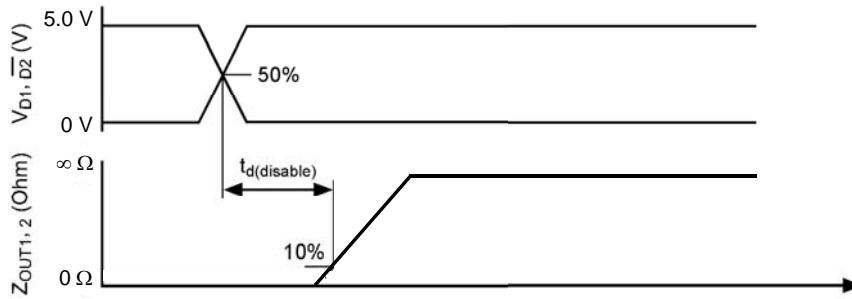

Figure 5. Disable Delay Time
- Disable Delay Time is the time duration from the midpoint of the D (disable) input signal to 10% of the output tri-state response. See Figure 5, page 8.